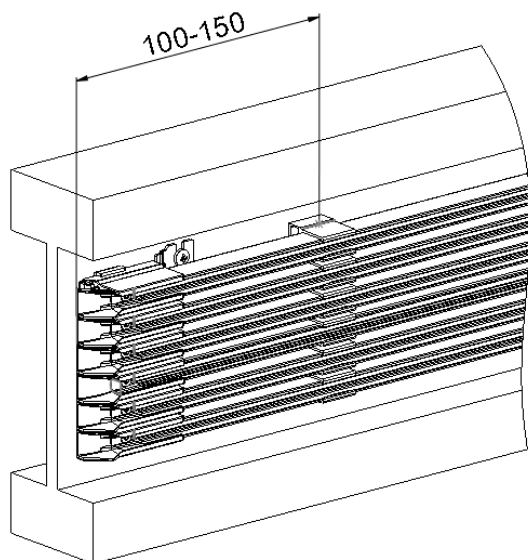

Fig. 35: Distance of the hanger clamp to the end cap
- Set the hanger clamps at distances of approx. 500 mm and at distances of 400 mm and 250 mm respectively for inner and outer horizontal bends. Mount the hanger clamps at a distance of 100 mm – 150 mm from the end cap (see Fig. 35).